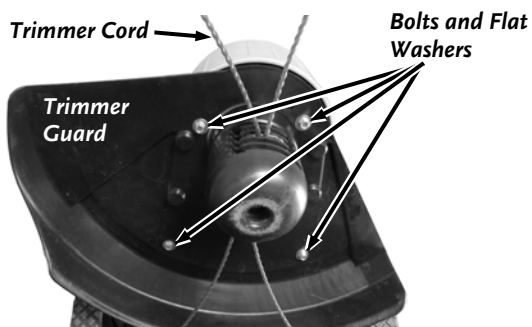

Figure 35
3. Remove the four Trimmer Guard Bolts and Flat Washers with a 3/8" Wrench. Remove the Trimmer Guard (Figure 35).
21. Position the Trimmer Guard and secure with the four Bolts and Flat Washers using the 3/8" Wrench (**Figure 35**).